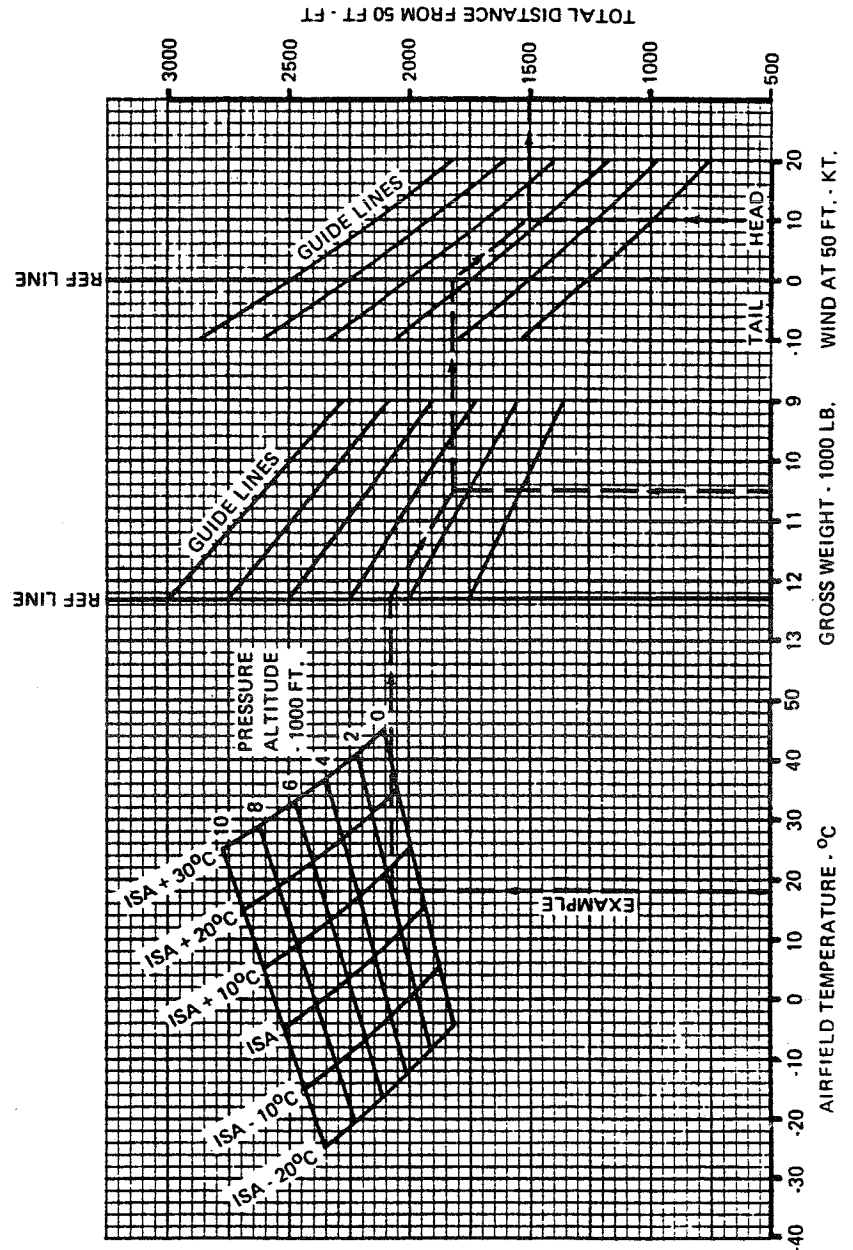

Figure 4-15
The landing distance from a height of 50 ft to a full stop is given in figure 4-15. The distance is calculated with the procedure and technique specified in CAR Part 3. However, the procedure and technique given in Section 2 of this manual meets all the safety requirements of CAR Part 3 and result in distances considerably less than shown on the charts.
3. For landing distance required flap 20°; multiply landing distance flap 37 1/2° (Figure 4-15) by 1.3.